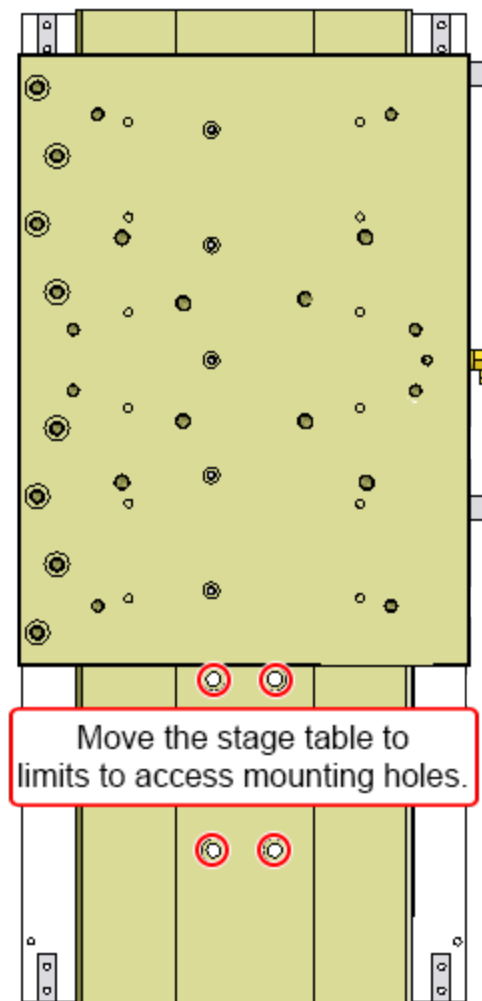

Figure 2-3: Surface Mounting Holes
2. Manually move the stage to one end of travel. Half of the mounting holes for the stage will show. See Figure 2-3.